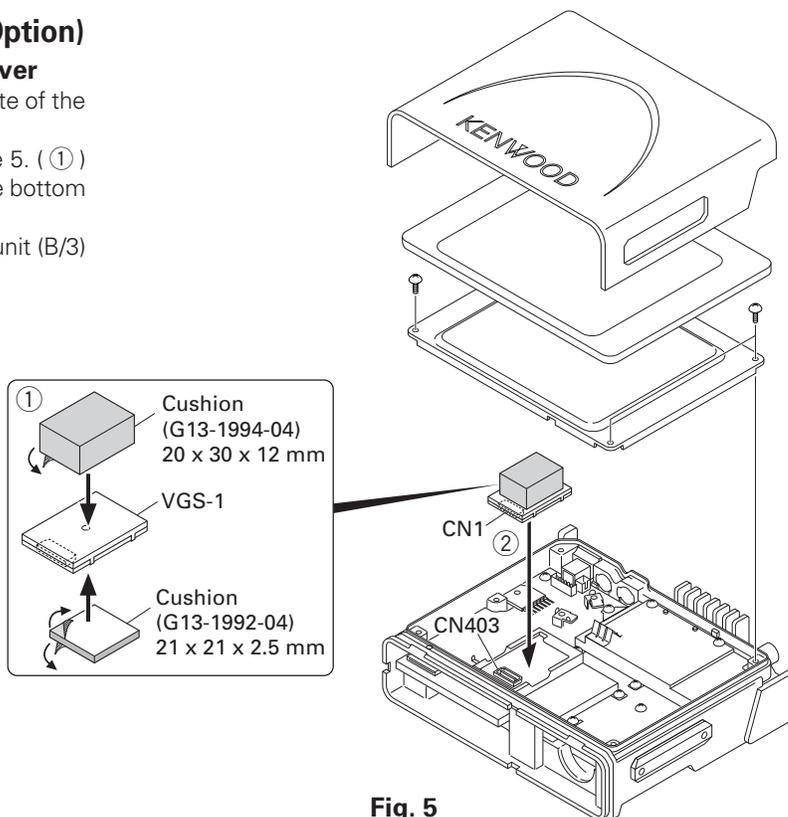

Fig. 5
2. Attach two cushions to VGS-1 as shown in Figure 5. ( ① )
3. Insert the VGS-1 connector (CN1) into the TX-RX unit (B/3) connector (CN403). ( ② )